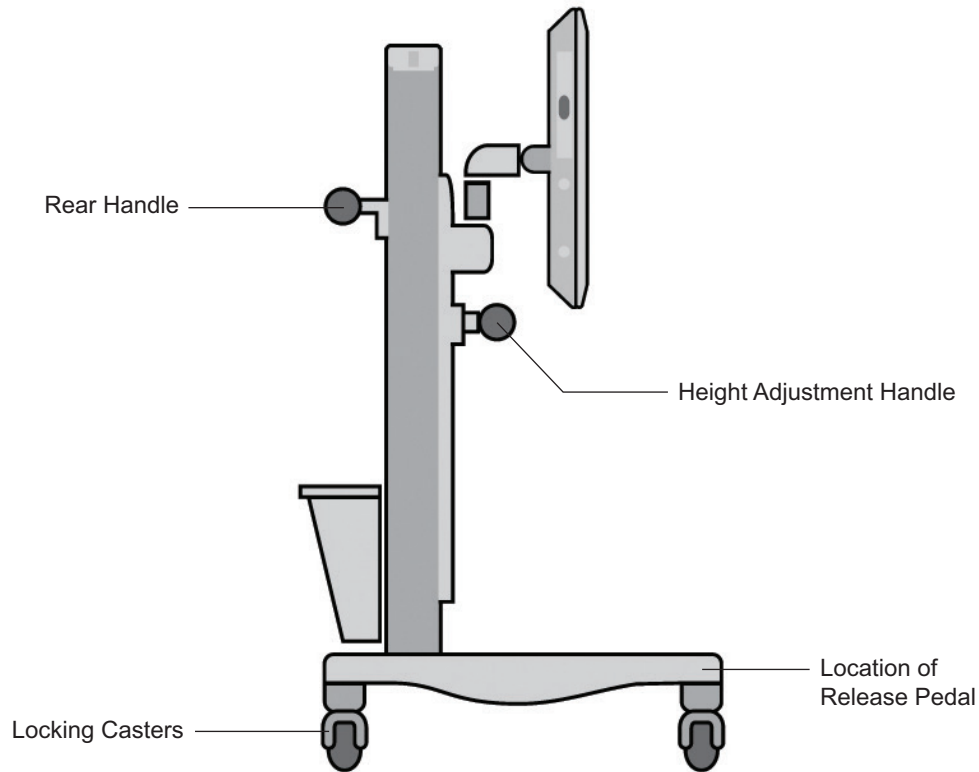

Figure 26: Correct Position for Moving Mobile Stand
4. Move the Touchscreen PC to a position closest to the Mobile Stand Tower. See Figure 26.